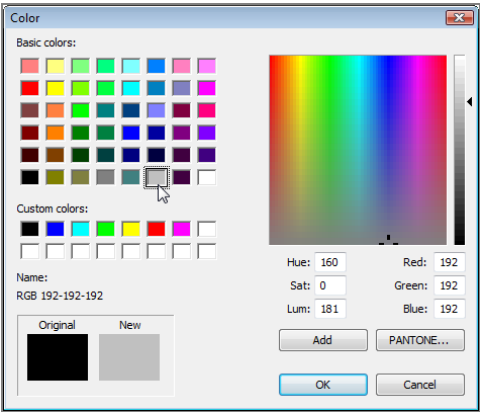

FIGURE 12.26: Selecting the gray color (RGB 192-192-192)
9. In the Color dialog, click the Gray tile, as shown in Figure 12.26. (The color is actually RGB 192-192-192.)